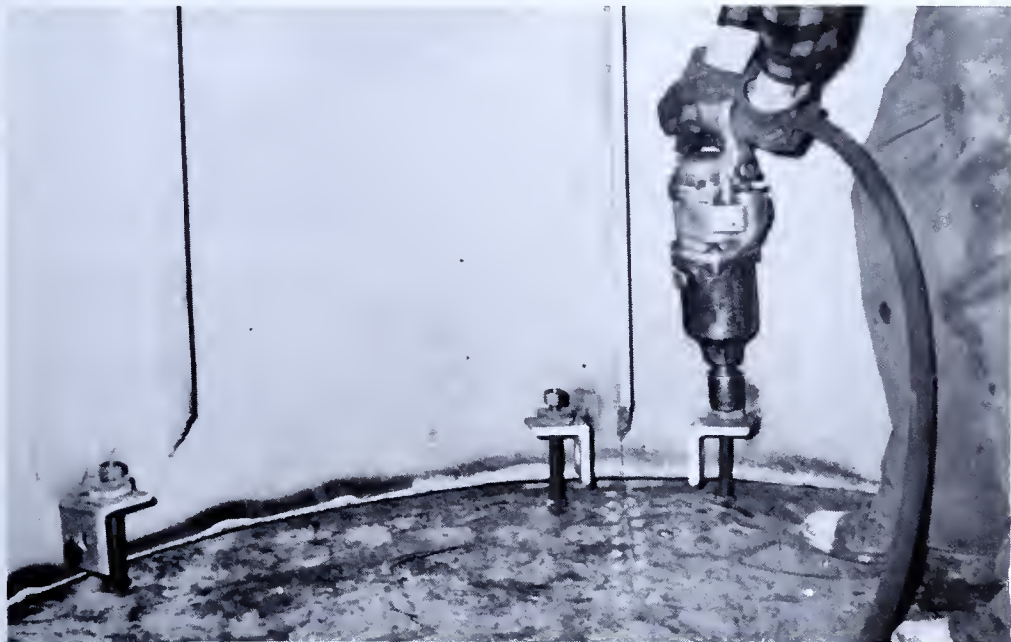
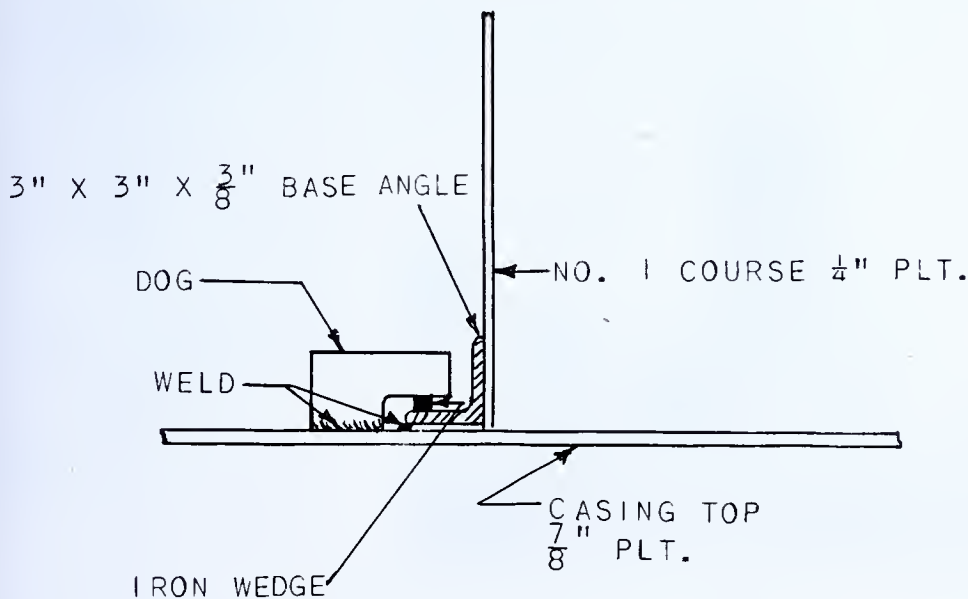

FIG. 594 — *Tightening Stack to Base with Impact Wrench*
FIG. 595 — *Fitting Base Angle*
50. Fit base angle on bottom of No. 1 course to set marks on casing top as shown in Fig. 594 and Fig. 595.
53. Fit base angle of inner stack to set marks on casing top, using method shown in Fig. 595.